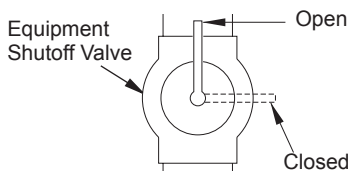

Figure 16 - Equipment Shutoff Valve
1. Close equipment shutoff valve (see Figure 16).
1. Open equipment shutoff valve (see Figure 16, page 15).
2. Close equipment shutoff valve (see Figure 16, page 15)